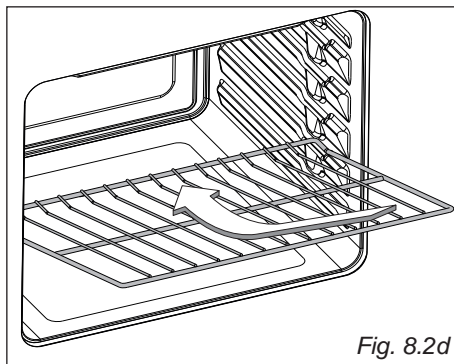

Fig. 8.2d
- The oven shelf is provided with a security block to prevent accidental extraction. It must be inserted operating as per figure 8.2d.